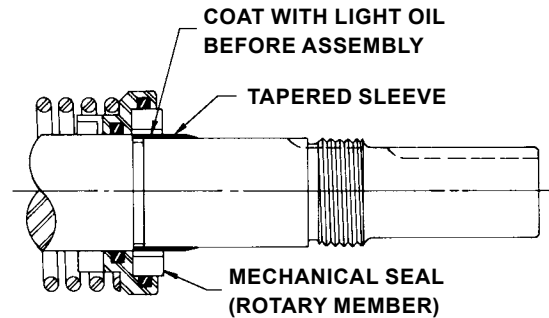

FIGURE 7
6. Place tapered installation sleeve on shaft, Refer to Figure 7. Sleeve is furnished with H, HL, K and KK size replacement mechanical seals and is not needed on L, LQ and LL sizes. Coat rotor shaft, tapered installation sleeve and inner diameter of mechanical seal rotary member with a generous amount of non-detergent SAE 30 weight oil. Petrolatum may be used but grease is not recommended.